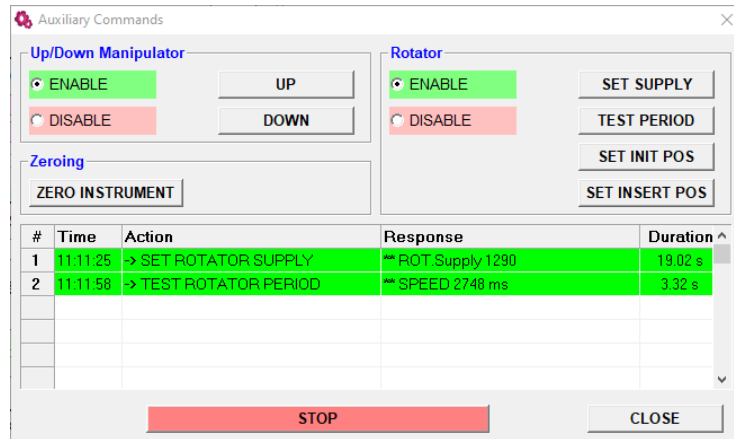

Figure 5: Auxiliary commands
- From upper menu select *Execute > Auxiliary commands* and check the ROTATOR SUPPLY using button *Set supply* in Figure 5.